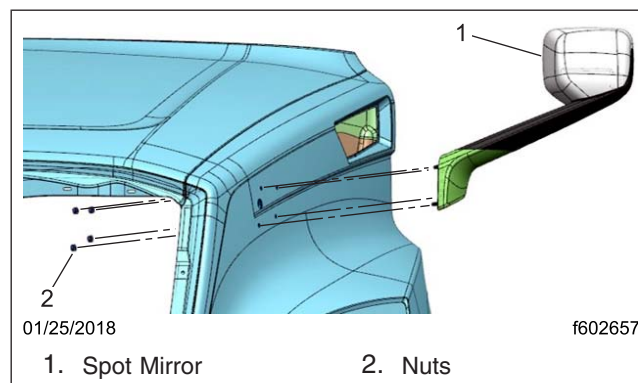

Fig. 1, Spot Mirror Installation
5. Remove the four nuts that attach the spot mirror to the hood. See Fig. 1. Discard the nuts.